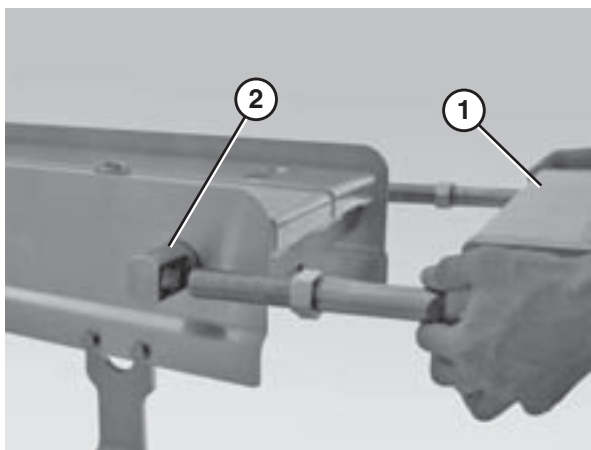

Figure 74
2. Slide the nose bar tail assembly (Figure 74, item 1) out of the take up blocks (Figure 74, item 2).